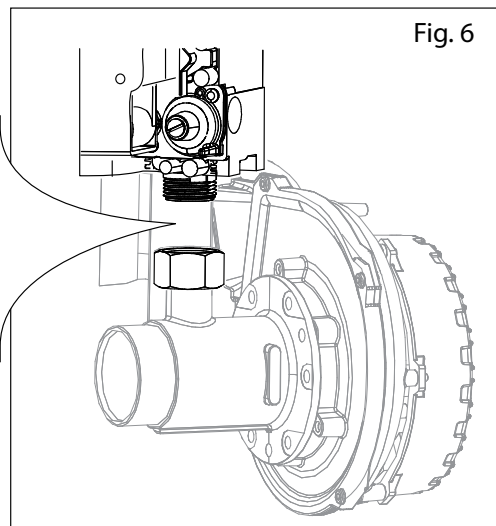
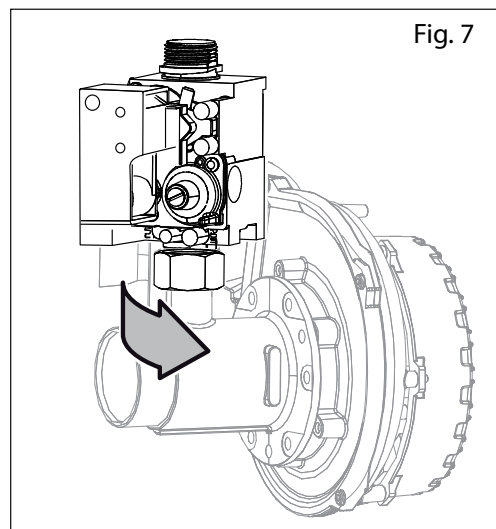

Fig. 6
Fig. 7
Replace the nozzle (Fig. 6 E) purchased at authorized service centers in relation to the characteristics specific to the type of gas (see “Technical Data” table).
Check that the seal (Fig. 6 (F) is in good condition for use, and if necessary, replace it.
Upon completion of the operations described, position the nozzle and seal in the seat located on the “Venturi” group (Fig. 6 E and F) and then tighten again (Fig. 7).